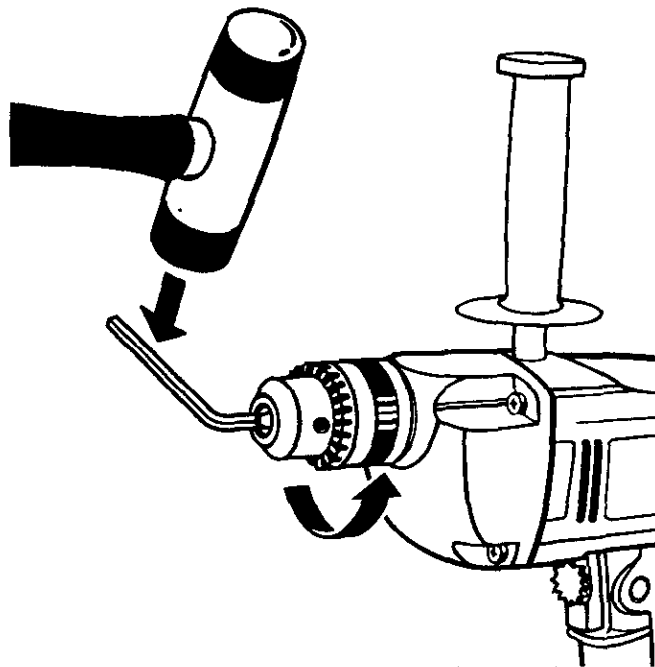

Fig. 13
- Insert hex key in chuck and tighten chuck jaws securely. Tap sharply with a mallet in a counter-clockwise direction. This will loosen chuck on the spindle. It can now be unscrewed by hand. See Figure 13.